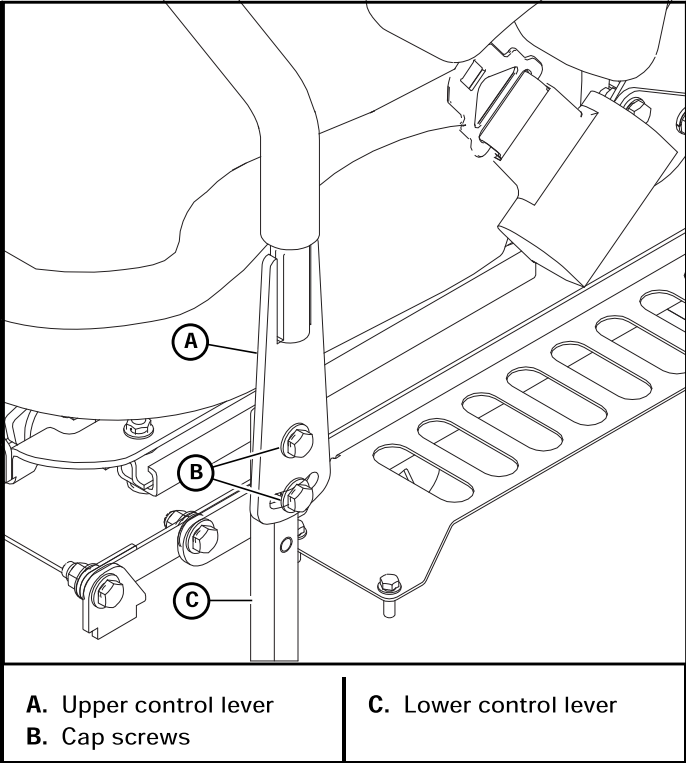

Figure 4-17
- A. To pivot the upper control levers forward or rearward, loosen the cap screws that attach the upper control lever to the lower lever. Then, pivot the upper control lever. Tighten the cap screws. Figure 4-17